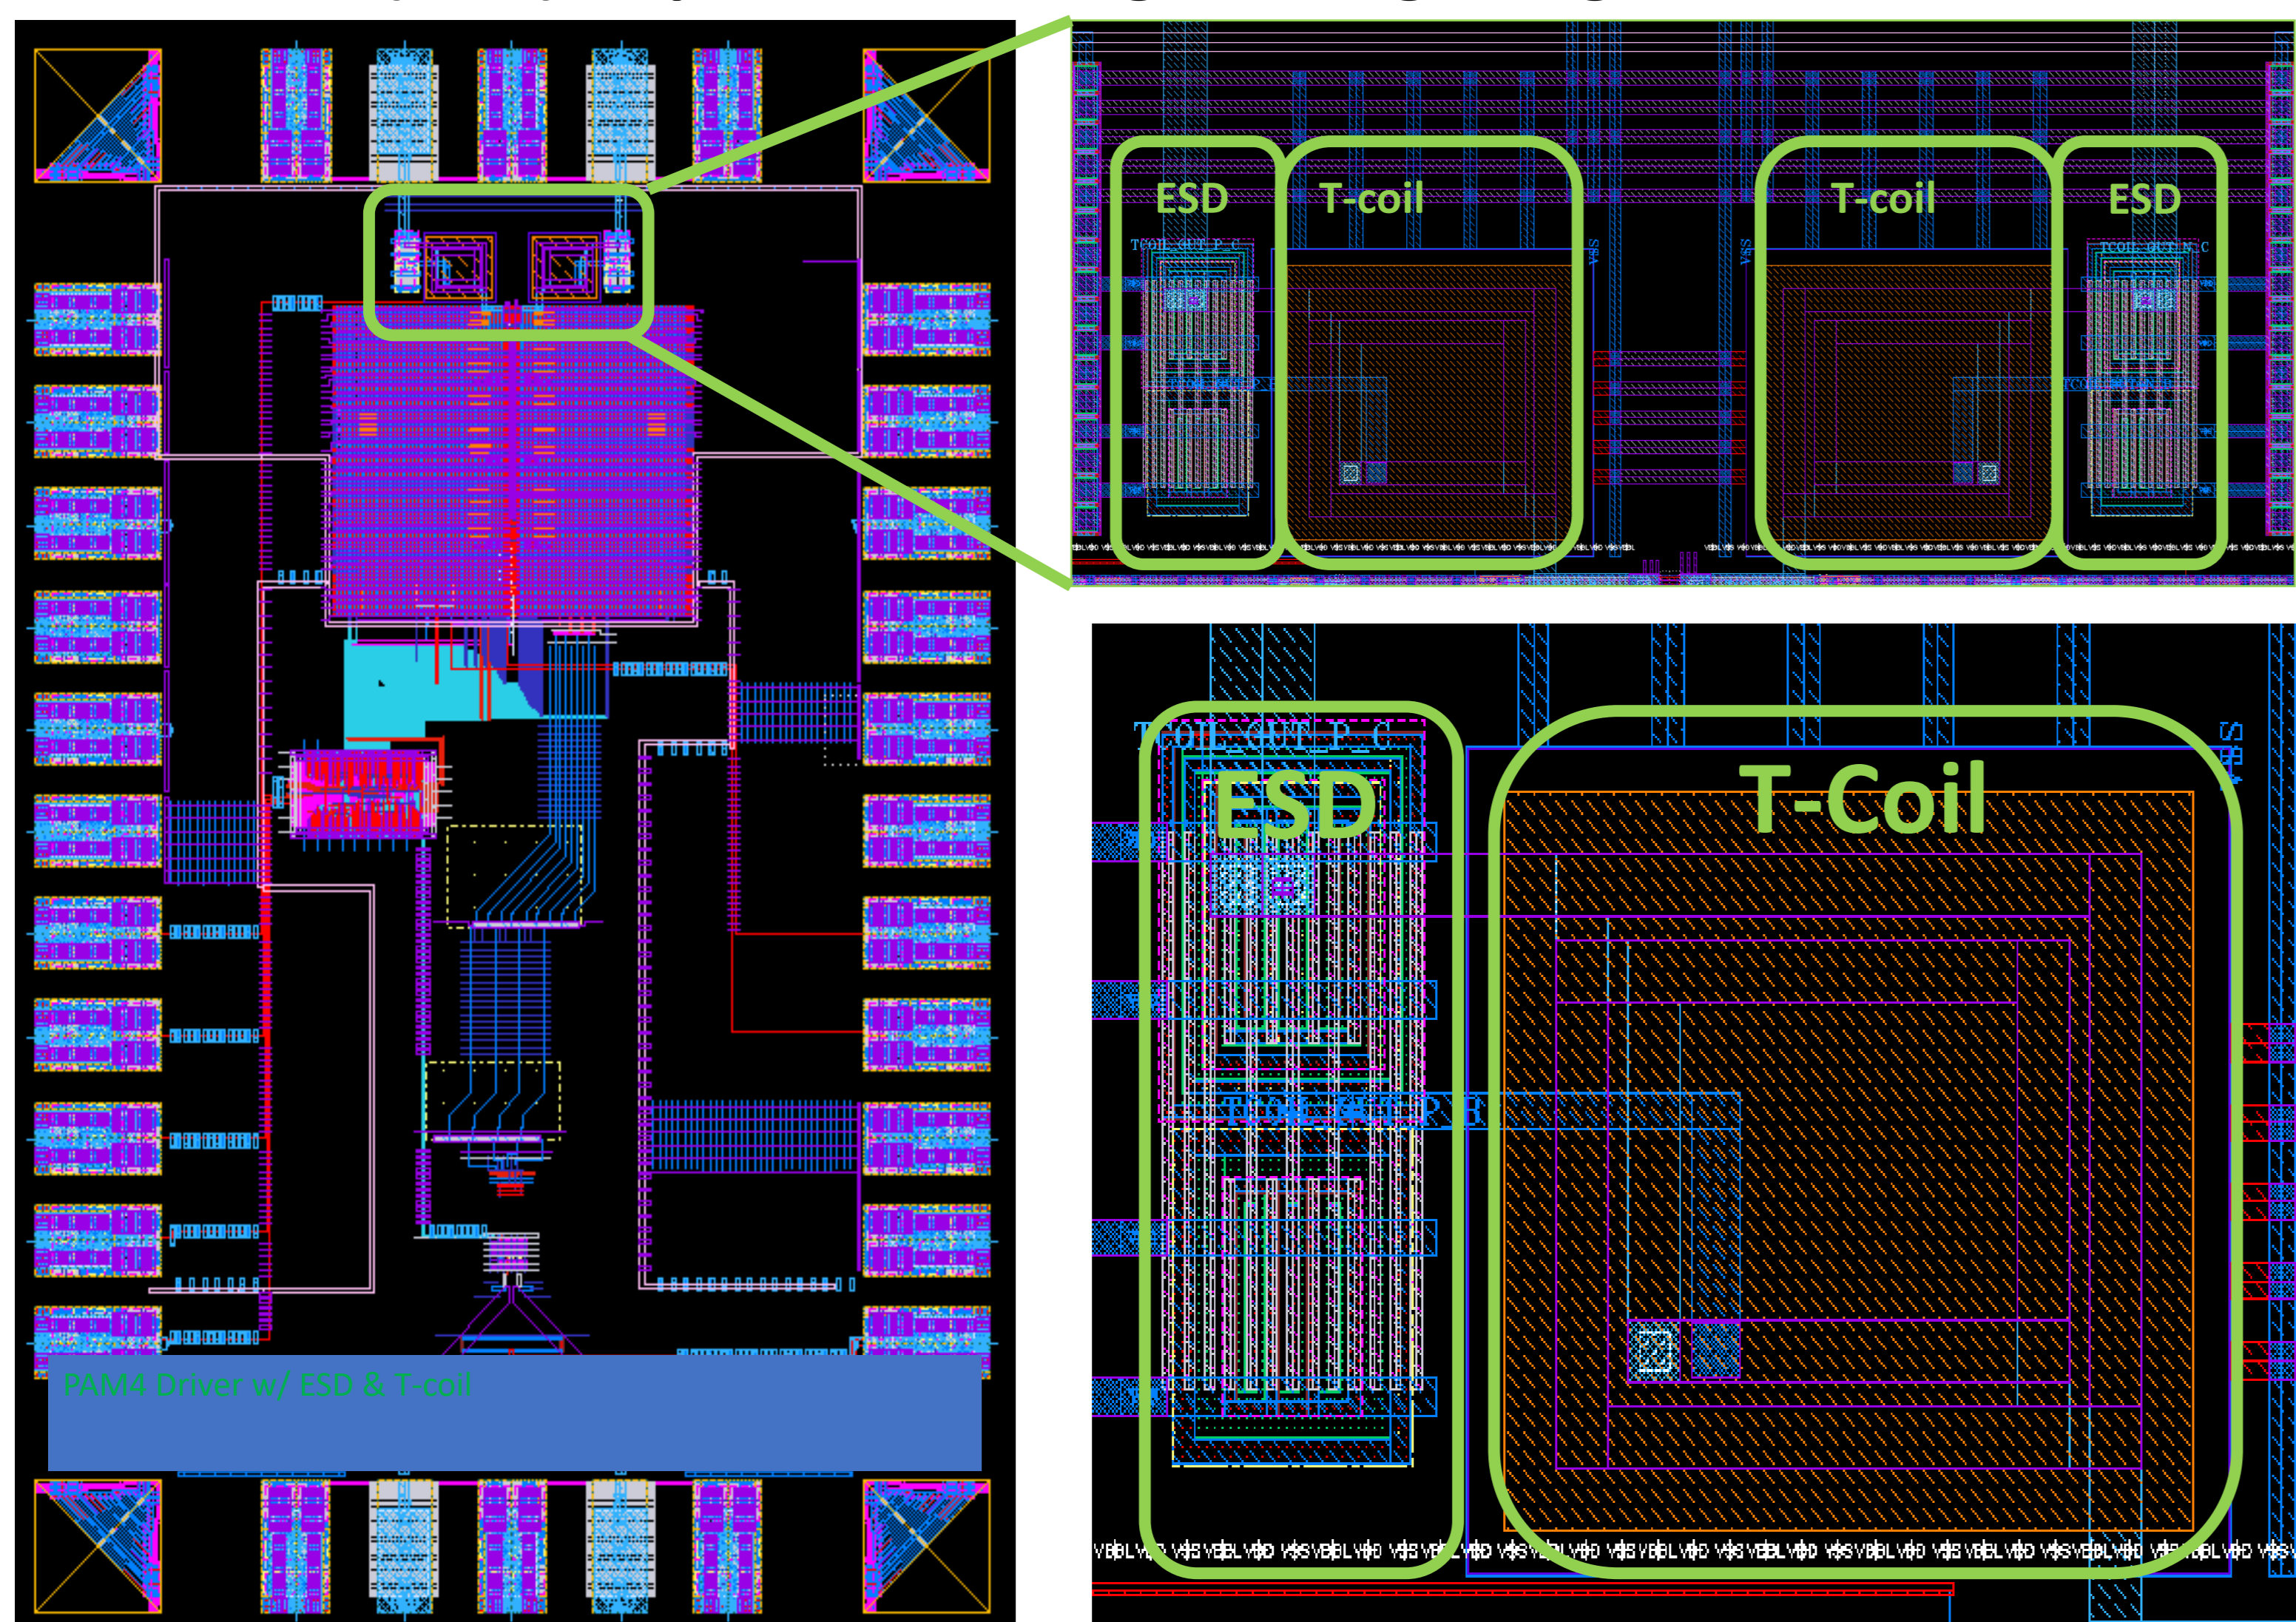

Fig 2. Top Layout and an enlarged view of T-coil and ESD protection
- ❖ Fig 2. shows top layout and an enlarged view of T-coil and ESD protection.